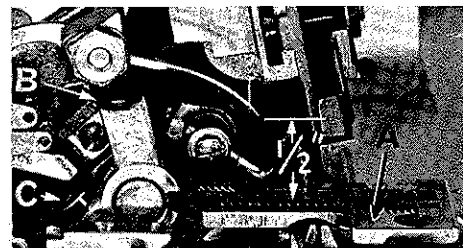

Fig. 3
With throat plate assembled in position, needle should center in the front end of needle slot. When needle is at high position, needle point should be set $1/2$ inch above throat plate (A, Fig. 3) for Style 39500 FN; $15/32$ inch for Styles 39500 FV, FX, GU and JX; and $33/64$ inch for Style 39500 GP. To align needle or set the height above the throat plate, move needle driving arm (B, Fig. 3) by loosening clamp screw (C). Remove throat plate.